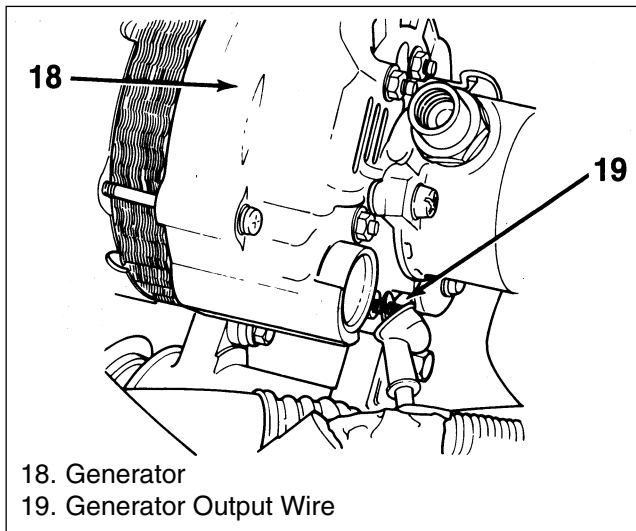

Figure 7. Wiring and Generator
20. Generator output wire (19) and generator (18) (figure 7).
16. Generator output wire (19) to the generator (18) (figure 7).